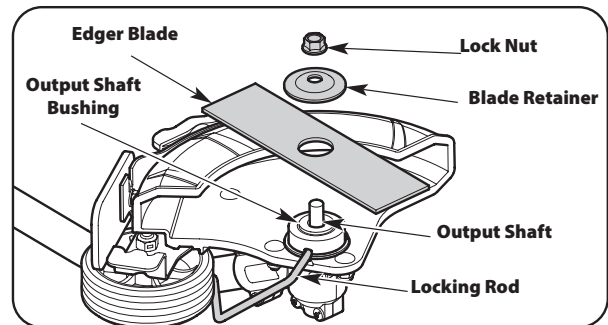

Figure 5
4. Remove the locking rod. Remove the lock nut, blade retainer and edger blade. See Figure 5. Keep the lock nut and blade retainer for installing the new edger blade.